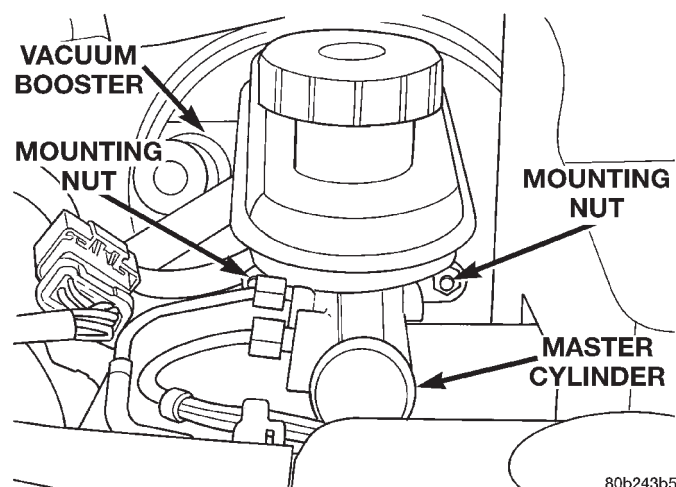

Fig. 13 Master Cylinder To Vacuum Booster Mounting
(16) Remove the 2 nuts (Fig. 13) mounting the master cylinder to the vacuum booster.